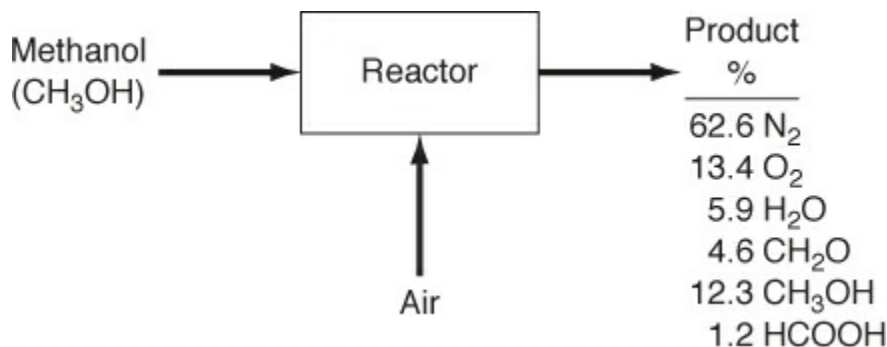

Figure P4.3.3
****4.3.3** Examine the reactor in Figure P4.3.3. Your boss says something has gone wrong with the yield of CH_2O , and it is up to you to find out what the problem is. You start by making material balances (naturally!). Show all calculations. Is there some problem?